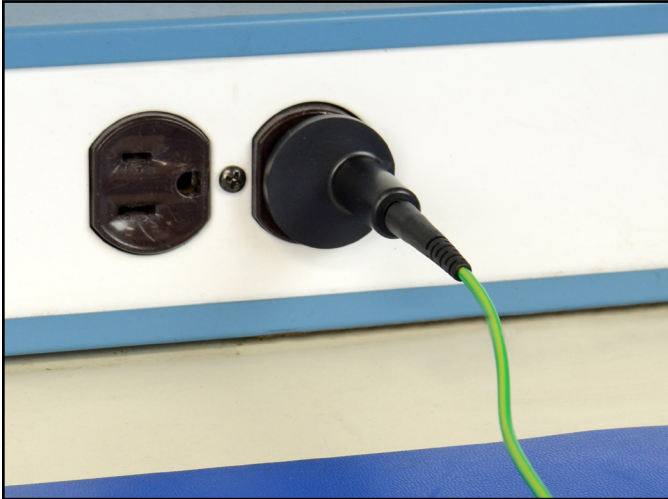

Figure 3. Using the Ground Plug Adapter to ground the WSMONITOR2 Plus Verification Tester
1. Connect the WSMONITOR2 Plus Verification Tester's green ground lead to equipment ground. This may be done using the included Ground Plug Adapter or alligator clip. See Figure 3.